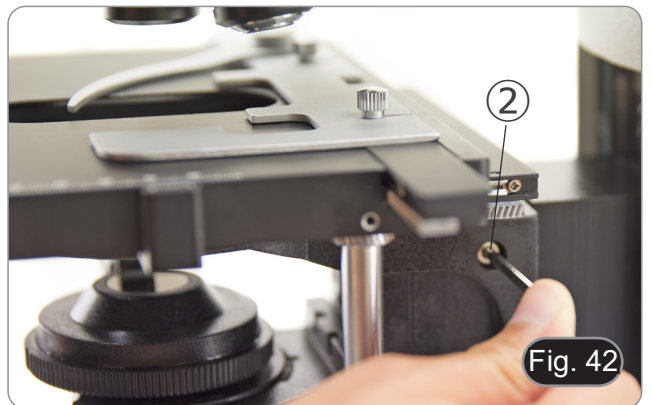

Fig. 42
1. Loosen the fixing screw ② and lower the stage to the desired position. (Fig. 42)